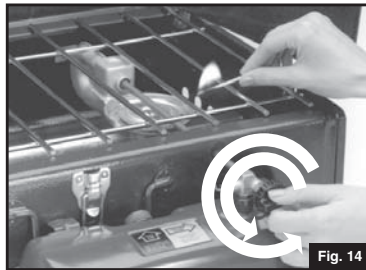

Fig. 14
- Hold lit match at MAIN BURNER before opening the FUEL VALVE. Open FUEL VALVE quickly, at least two full turns. (Fig. 14)